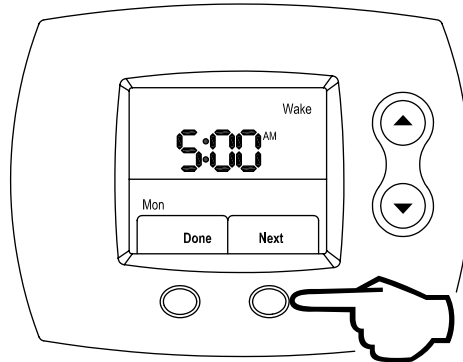

Figure 81
Step 7: Press the **RIGHT** (Next) button to select AM / PM. This is shown in Figure 81.